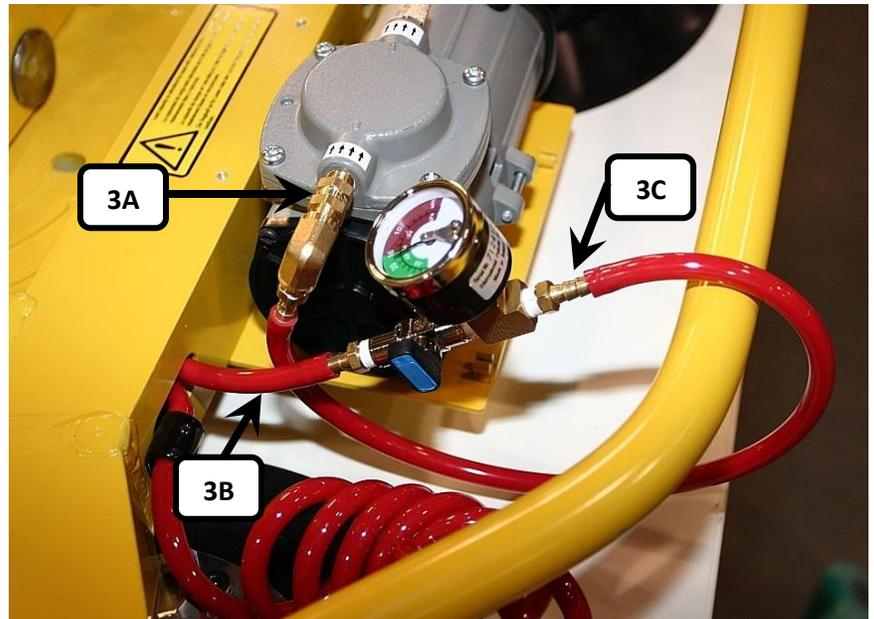

FIGURE 3
- 1) The check valve (3A) is located on the vacuum pump (1st fitting on the vacuum pump). See **FIGURE 3**.